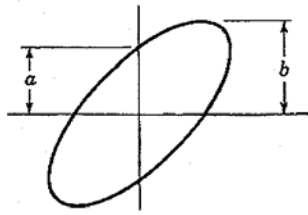

Figure 3.
5. Find the phase difference  $\theta$  using the Lissajous plot (use X-Y mode of scope) shown in Figure 3, using  $\sin \theta = a/b$ .